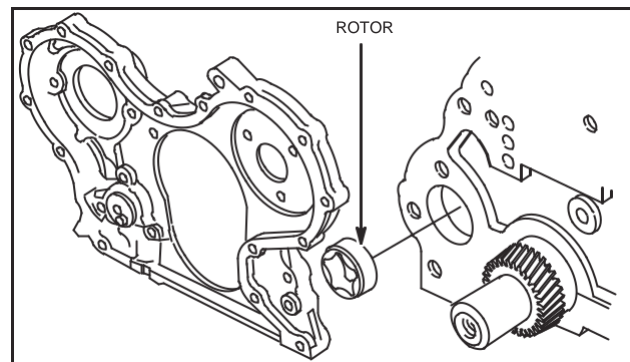

Fig. 12 – Remove Timing Gear Case
3. Remove timing gear case and discard gasket, Fig. 12.